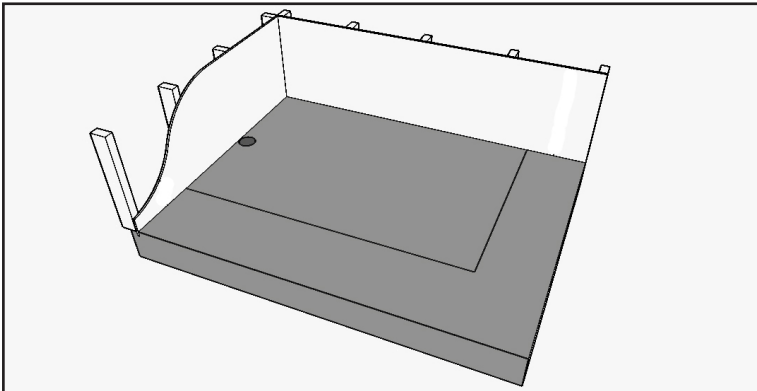

Fig. 1.1: Preparation of the floor substrate.
- b) Substrate preparation must be completed to meet or exceed New Zealand building code requirements (See Fig 1.1)